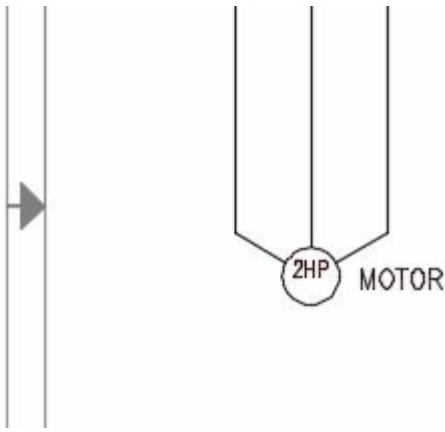

Figure-71. Motor placed
- Click on the **OK** button from the dialog box. The motor will be placed; refer to Figure-71.